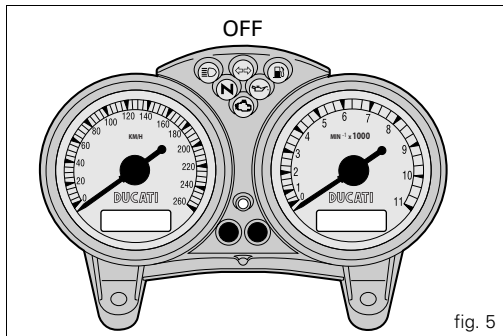
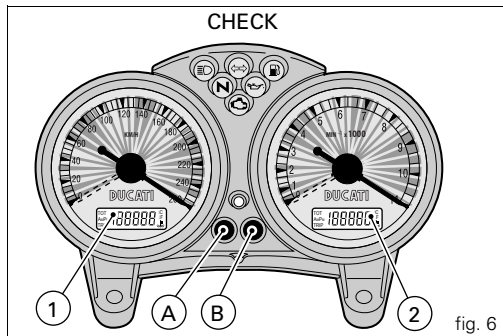

fig. 5
fig. 6
When the engine is switched on (key turned from **OFF** to **ON**), the instrument panel performs a check of all the instruments (dials, display, warning lights), see (fig. 5 and fig. 6).
By pressing button (A, fig. 6) with the key turned to ON, you can cycle between display of the trip counter and the odometer and, if the fuel level warning light is on, the fuel reserve trip counter.
If button (A, fig. 6) is held pressed for more than 2 seconds while the **TRIP** (trip meter) is active, the display is reset (LCD 1).
If button (B, fig. 6) is pressed with the ignition key at ON, the display shows the clock and the oil temperature.
Press button (B, fig. 6) for at least 2 seconds and the time will be shown on display (2, fig. 6).
Select AM/PM by pressing button (A, fig. 6). Press button (B, fig. 6) to select the hour setting function. Press (A) repeatedly to change the hour indication. Press button (B) to change to the minute setting function.
When the fuel level warning light illuminates, the word “FUEL” appears on display (2, fig. 6) and the fuel reserve trip counter function will be activated and indicate on display (1, fig. 6) the number of kilometres travelled in reserve preceded by the letter “F” (FUEL).
The “MAInt” message on display (1, fig. 6) indicates that the service interval has been reached: it will be displayed for 5 seconds each time the ignition is switched on. When the “MAInt” message is displayed, contact an authorised dealer or service centre.
Press button (B, fig. 6) within 5 seconds after the ignition key is turned to the ON position to adjust the brightness of the backlight. The brightness changes at each press of the button.